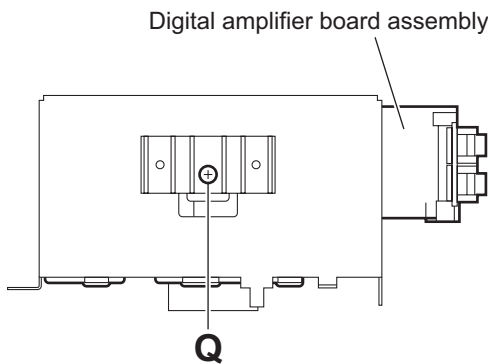

Fig.17
3.1.8 Removing the digital amplifier board (See Figs.17 to 22)
- From the forward side of the digital amplifier board assembly, remove the screw **Q**. (See Fig.17.)